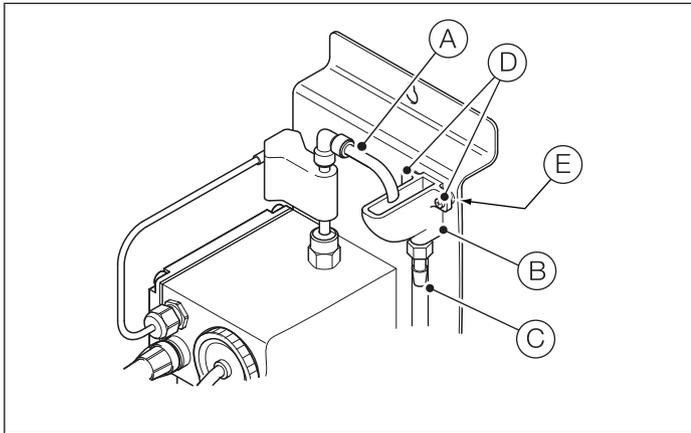

Fig. 6.3 Replacing the tundish assembly
Referring to Fig. 6.3:
7. Feed the replacement drain valve cable through the cable gland and make connections to PCB wet-section terminals TB3 (see Fig. 6.3, page 5) and at the transmitter (see Operating instruction OI/ADS550-EN).
8. Connect the drain valve clip-on cable connector (C) to the end of the drain valve coil housing.
9. Reconnect the drain tube to barbed outlet connector (E) on bottom of drain valve (B).